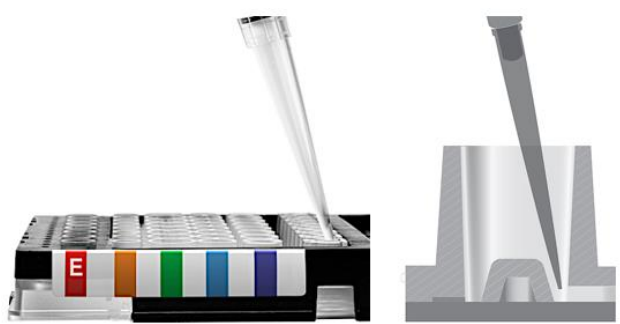

Figure 10. Sample recovery technique
- Set a 200 μL pipette to 200 μL . While using the thumb/forefinger to reinforce the seal on the well in Column 5, aspirate slowly from the bottom right side of the Sample Well of the non-initiated sample where the well and channel meet (see **Figure 10**) and transfer to a new microtube.